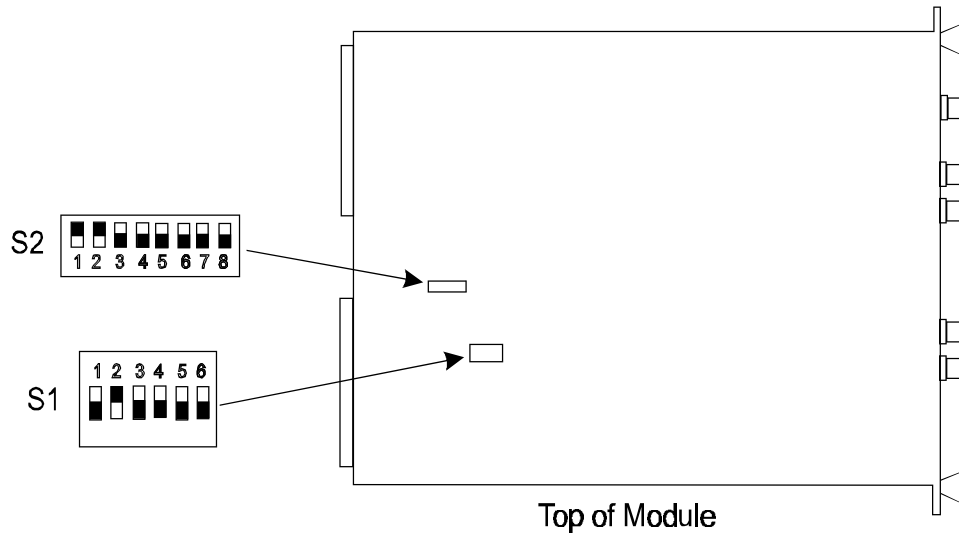

Figure 2-1 Location of Switches
2.4.3 To set the logical address of the 2251A, set switch S2 to the binary equivalent of the logical address selected. Logical addresses between 1 and 254 (FF_{HEX}) are permitted. The OFF switch positions on S2 correspond to binary 1. The 2251A is shipped from the factory with the logical address set to 03. Refer to **Figure 2-1** for an illustration of the location of the switches and their default settings.